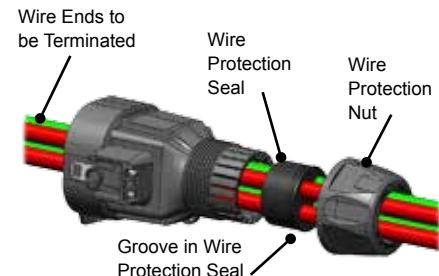

Figure 1
- Slide approximately 8 inches (203.2 mm) of wires through wire protection nut, wire protection seal (with the groove facing the wire protection nut) and plug shell. (See figure 1)